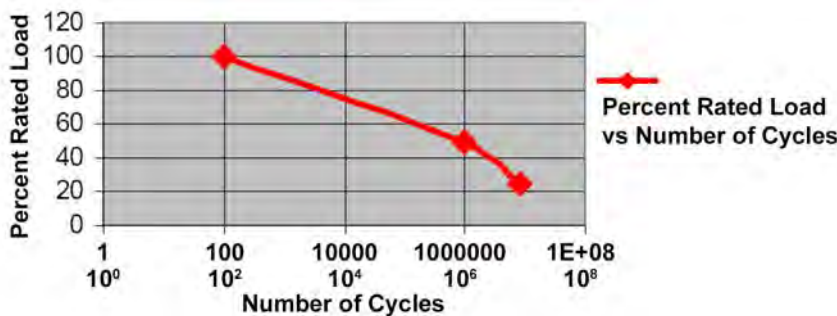
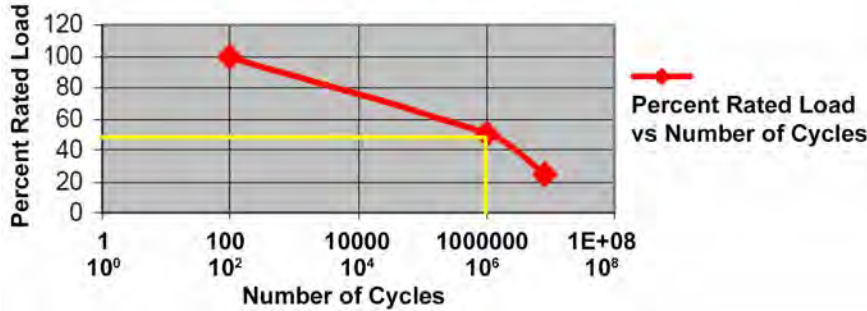

Figure 2: Percent Rated Load versus Number of Cycles.
Figure 3: Safety Factor Needed To Meet 1,000,000 Cycle
There are many variables that ultimately determine the life of an actuator. The best way to predict life is through application testing, which is highly recommended. There is, however, a first approximation technique that can help estimate this value. The stepper motor prime mover contains no brushes to wear out and also utilizes precision, long life ball bearings. The main wear component is the lead screw nut interface. The number of cycles can be summarized as a function of percent rated load, as illustrated in Figure 2 below.
Step 1: Refer to Figure 2 and determine the correct sizing factor needed in order for the actuator to achieve the required 1,000,000 cycles. This is illustrated with the yellow line in Figure 3 below.